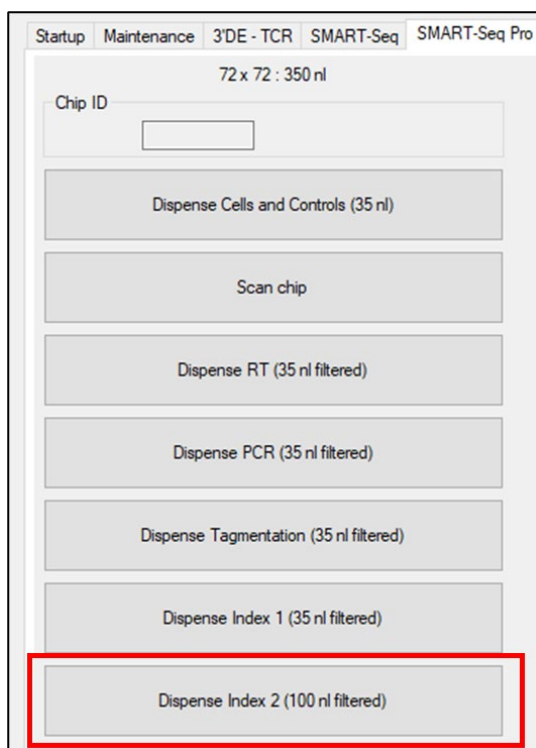

Figure 24. Using CELLSTUDIO software to dispense Index 2.
- b. At Step 8, click the [Dispense Index 2 (100 nl filtered)] button (Figure 24).